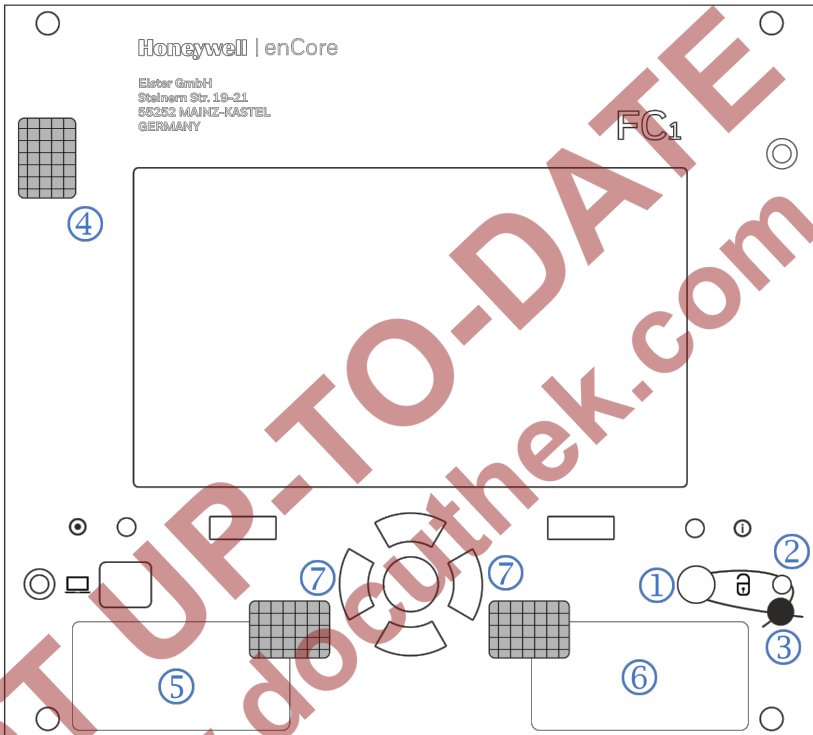

Figure 7: FC1 device sealing, front view (1/3 housing width),
- ① Security switch (sealable)
- ② Seal screw
- ③ Wire and seal
- ④ Securing mark (adhesive label), securing a housing screw
- ⑤ Location of type plate part 1
- ⑥ Location of type plate part 2
- ⑦ Securing mark (adhesive label), securing the type plate parts
The front sealing of a device with a wide housing (1/2 housing width) is the same (cf. Figure 7): Wire and seal for securing the security switch ① ② ③ ,